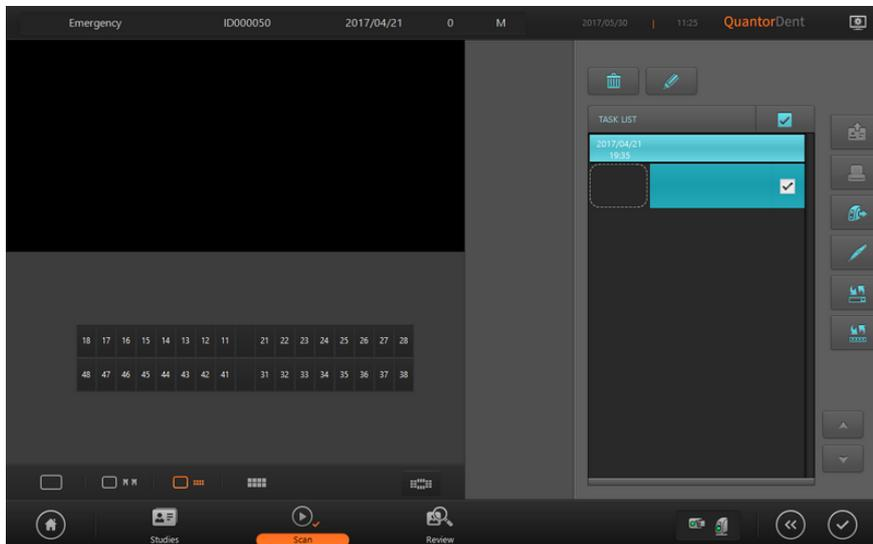

Figure 6.23 Fire ID tagging creates new empty task
6. Tag the IP to the Fire ID. The task is added to the Task List as shown in Figure 6.23.